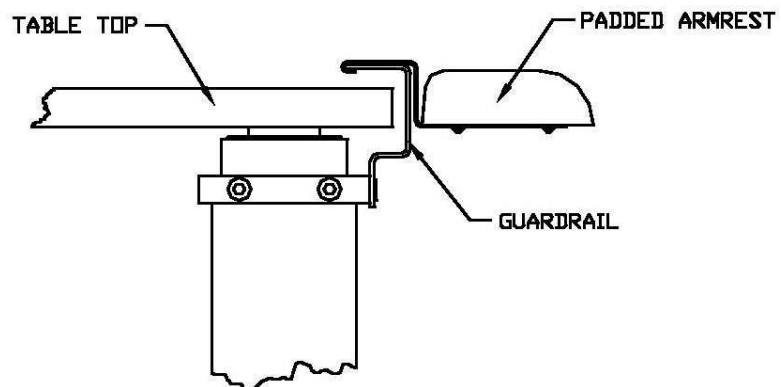

Fig. 7 Optional Padded Armrest.
1. The optional adjustable padded Armrest is ordered in pairs. (Refer Fig. 7).
2. To install the adjustable padded armrests simply drop onto the guardrail (as shown Fig. 7). They can then be slid into any position desired.